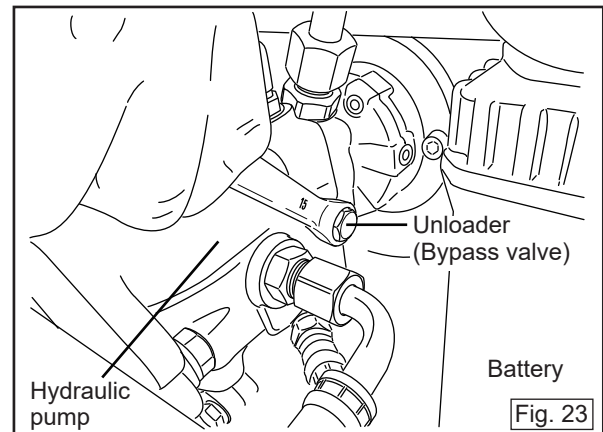

Fig. 23
(4) Operating the unloader (Fig. 23)